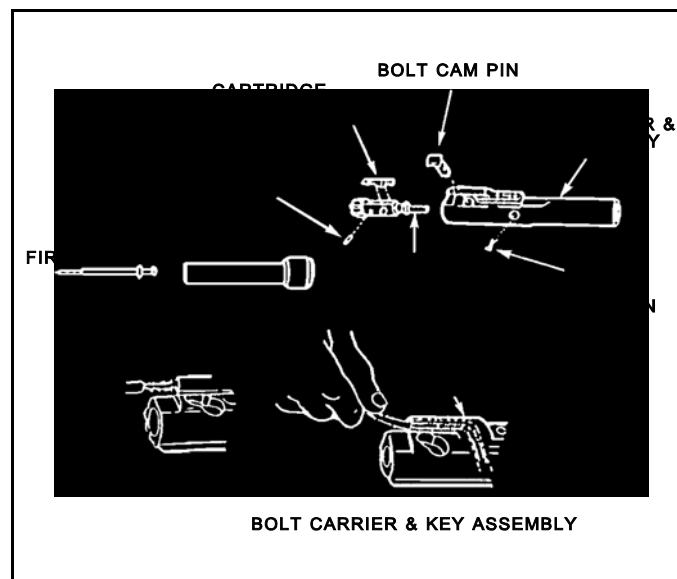

Figure 2. Bolt carrier and striker assembly disassembled.
- e. Breech bolt assembly. Disassemble the extractor from the bolt only when it is dirty or damaged (Figure 2).